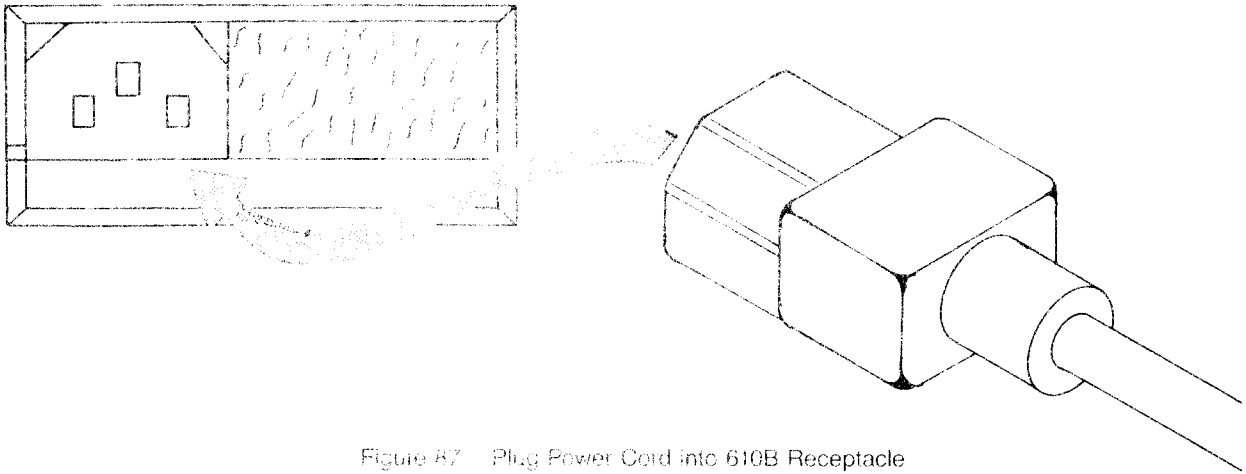

Figure 87. Plug Power Cord into 610B Receptacle
- g. Plug the female connector on the AC power cord into the AC power receptacle on the rear panel of the 610B (see Figure 87).